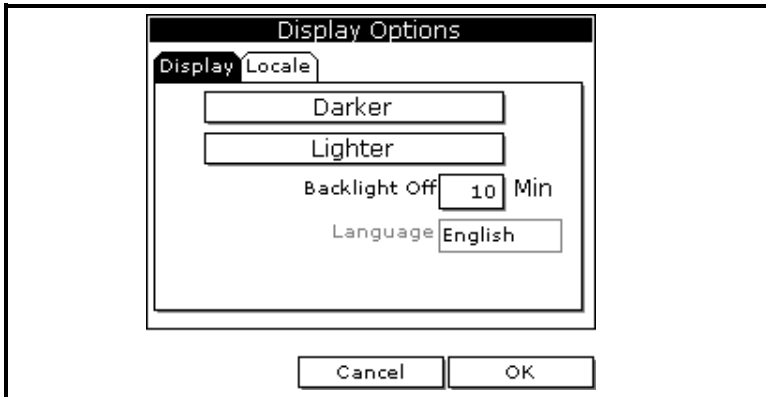

Figure 3-5: Display Tab in the Display Options Window
3. Use the arrow key to scroll to **Contrast** and press [ENTER]. A screen similar to Figure 3-5 below appears.